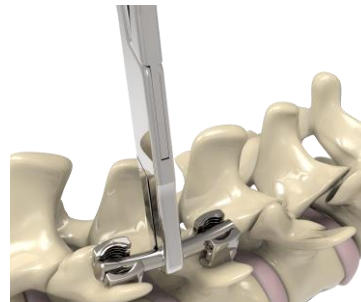

Figure 13
- e. Once the appropriate Rod has been selected, use the Rod Holding Forceps (39-SP-0805) to facilitate insertion into the Screw Head Tulip (Figure 13).